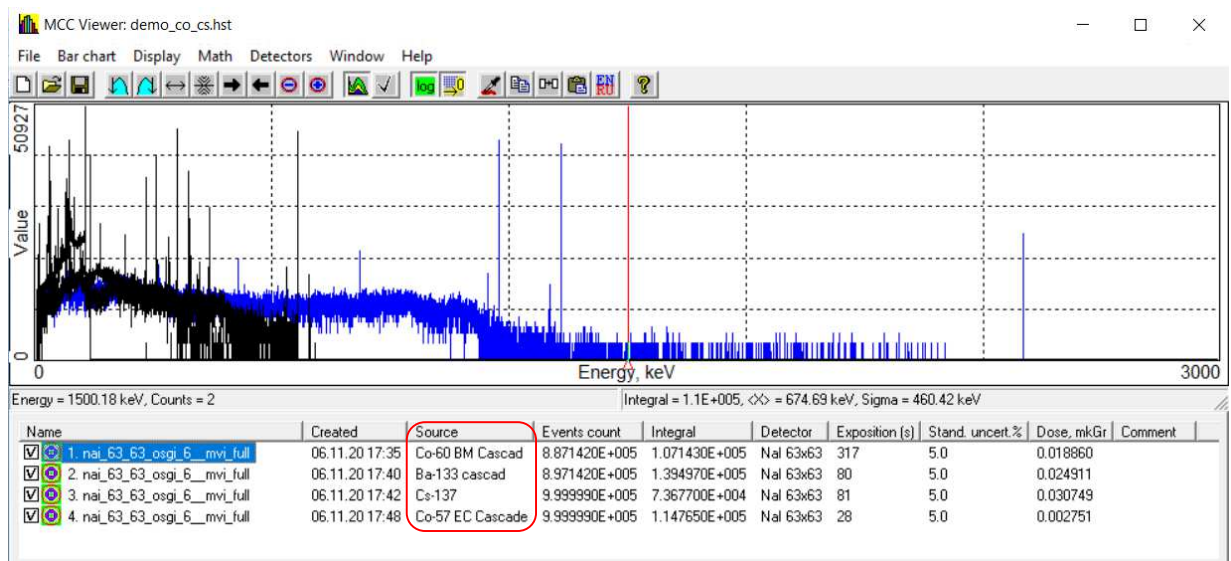
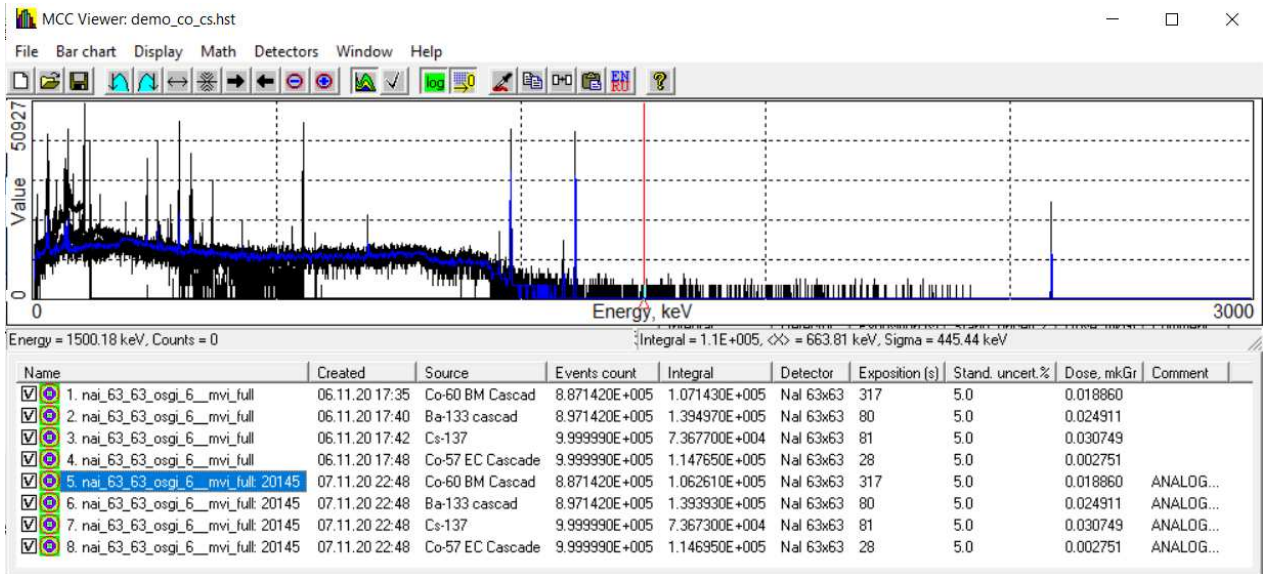

Figure 54.8
Figure 54.9
At the end of the calculation of each spectrum from a series of specified sources, the program will add it to the "MCC Viewer" module as separate rows. Each spectrum or all of them will be drawn as shown in Figure 54.8.
8.2.4 The spectra obtained as a result of the performed calculation performed are the theoretical response of the detector. It takes to obtain spectra that simulate real spectra for a given detection system, therefore it is necessary to perform the blurring procedure. To do this check the boxes for each of the spectra (as shown in Figure 54.8), and then in the module window "MCC Viewer" select the menu item **Detectors->Simulate->Analog** and in the window that appears, select the detector type from the drop-down list and then click the button **Simulate**. At the end of the list new required spectra (see Fig. 54.9) with a reference activity of 1 Bq will appear.